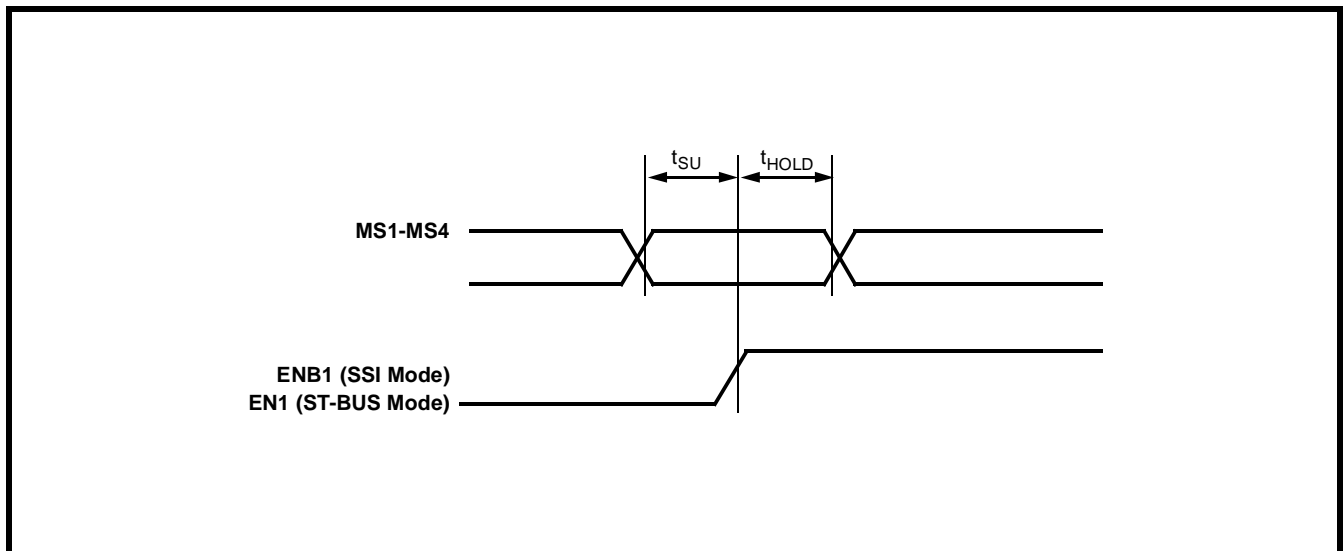

Figure 15 - Mode Select Set-up and Hold Timing for Dynamic Operation
**AC Electrical Characteristics† - Mode Select Timing (see Figure 15)**